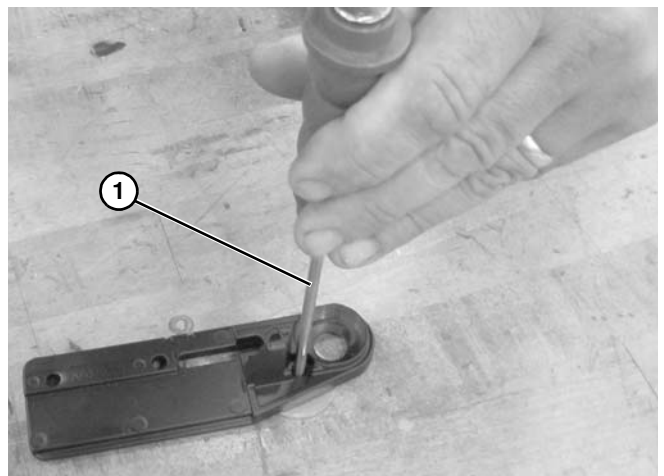

Figure 72
4. Repeat the same operation to knockout (**Figure 73, item 1**) for alignment screw hole using 3 mm - 5 mm punch (**Figure 72, item 1**) or M5 - M6 bolt.